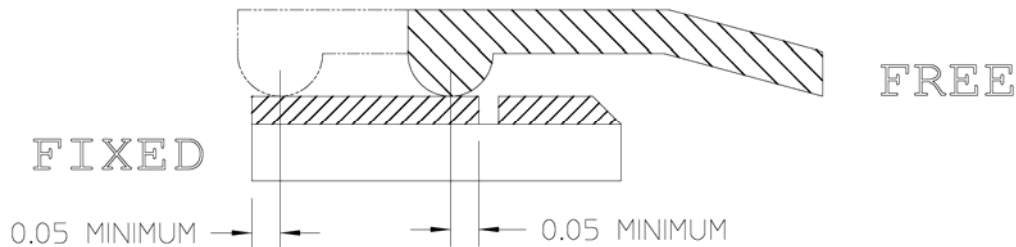
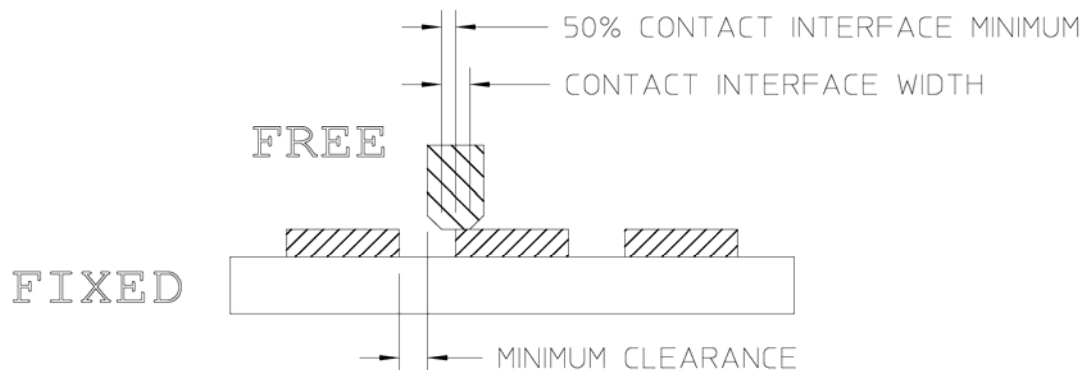
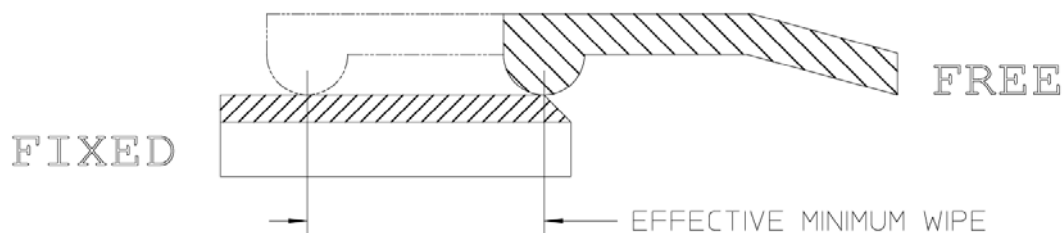
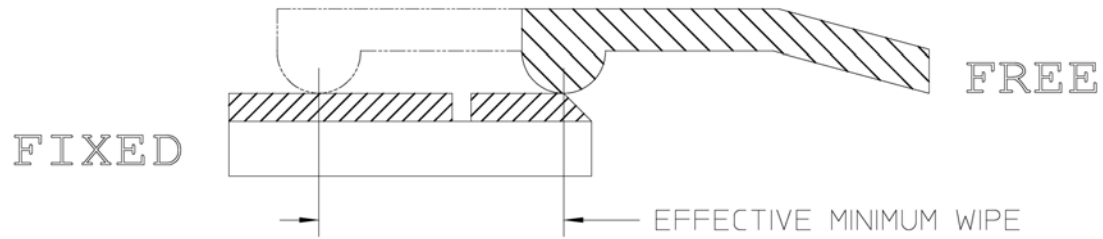

FIGURE 2-2 DIRECTION OF MATING
FIGURE 2-3 DIRECTION OF CONTACT
FIGURE 2-4 CONTINUOUS CONTACT
FIGURE 2-5 SPLIT CONTACT
*** Editor's Note: For the following figures, Figure 2-2, Figure 2-3, Figure 2-4, and Figure 2-5, the references to FIXED and FREE are reversed since these figures were the only Figures available from the SFF document template. If/when these are changed, the wording in the surrounding paragraphs will need to also be updated accordingly. ***